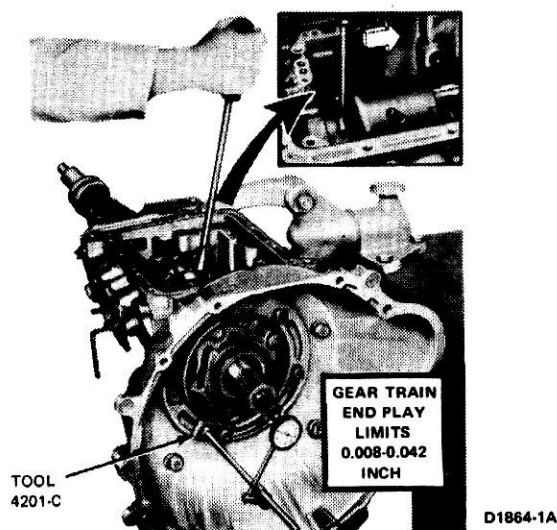

FIG. 18 Checking End Play
4. With the dial indicator contacting the end of the input shaft set the indicator at zero (Fig. 18).
5. Insert a screwdriver behind the input shell (Fig. 18). Move the input shell and the front part of the gear train forward.